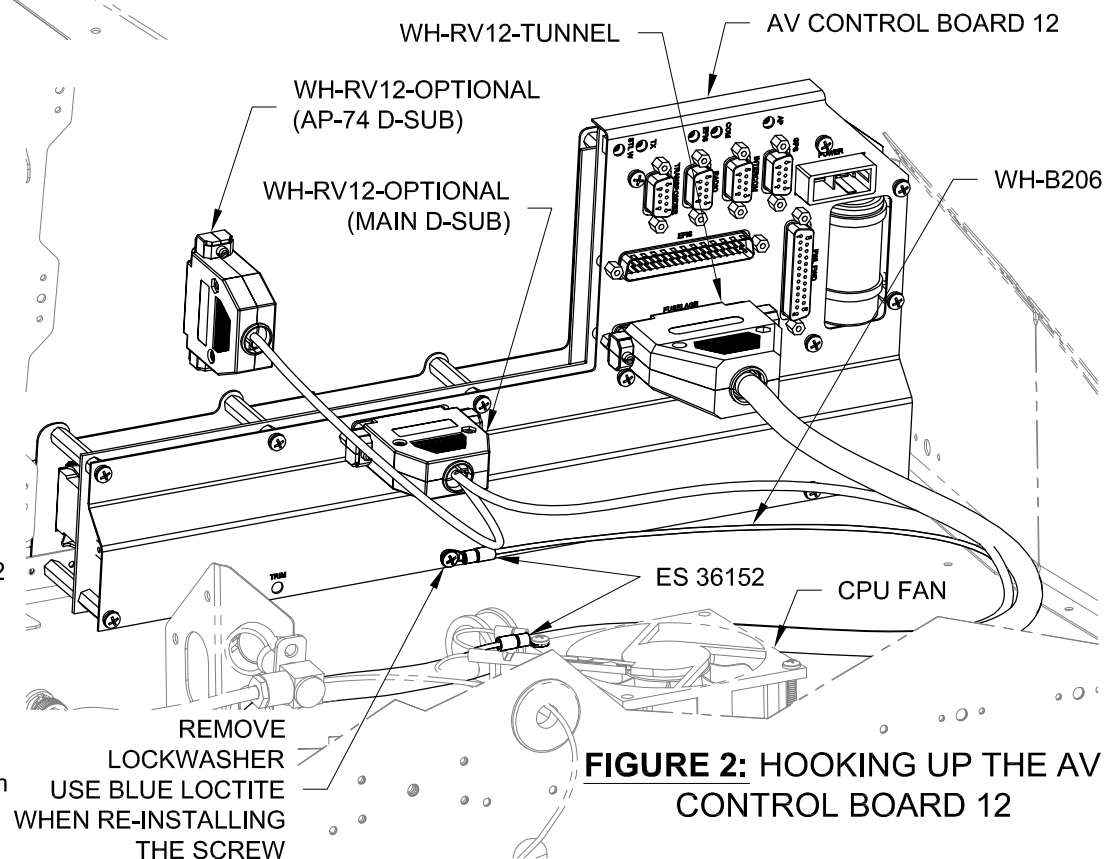

FIGURE 2: HOOKING UP THE AV CONTROL BOARD 12
Step 3: Install the WH-RV12-TUNNEL harness into the d-sub labeled fuselage and WH-RV12-OPTIONAL harness into the d-sub labeled optional on the back of the AV CONTROL BOARD 12. See Figure 2.
Step 6: Install the WH-B206 PCB Gnd between the screw holding the ES CPU FAN and the middle bottom screw on the AV CONTROL BOARD 12. See Figure 2.